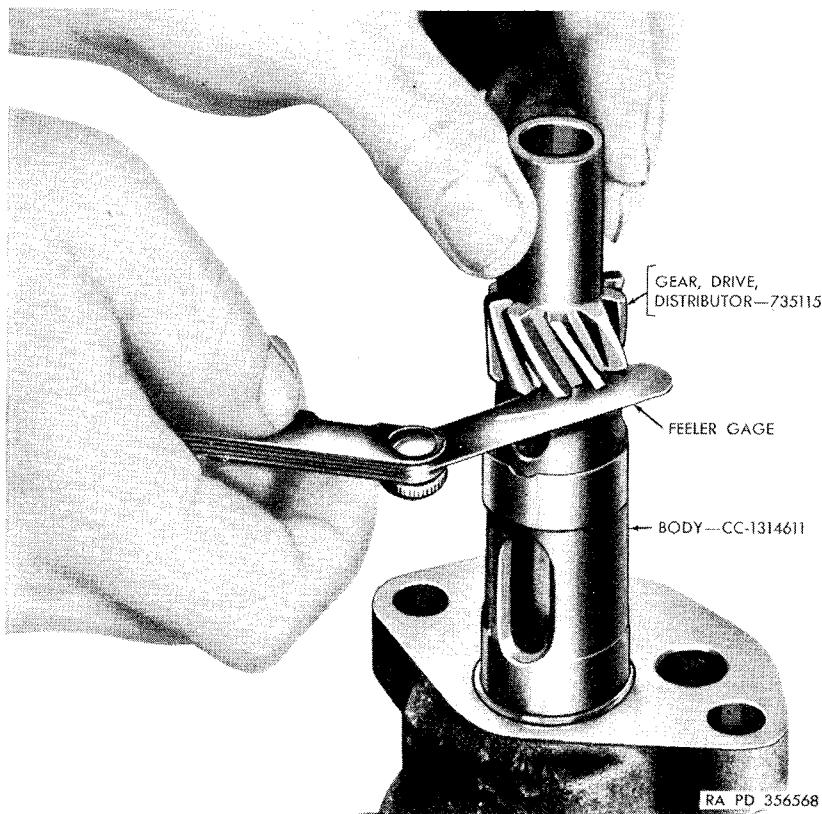

Figure 75. Checking oil pump shaft end play.
- (1) Press inner rotor into the body with hand; then check clearance with feeler gage (fig. 75). Drive shaft end play clearance should not exceed limits in repair and rebuild standards (par. 72).
- (2) If distributor drive gear pin holes do not line up, drill new hole through distributor drive gear and drive shaft using a $\frac{5}{32}$ -inch drill, at right angles to other holes. Peen ends of pin after installation.